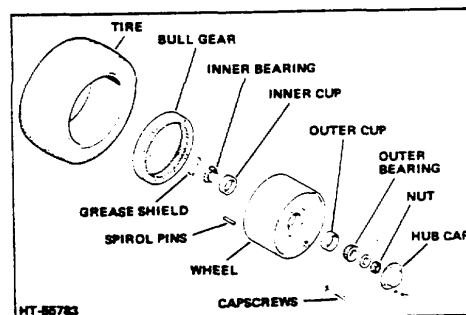

Figure 7-2. Drive Wheel
3. Remove outer bearing cone (Fig 7-2) from wheel and carefully remove the drive wheel.
4. Remove inner bearing cone (Fig 7-2) and grease shield from spindle.